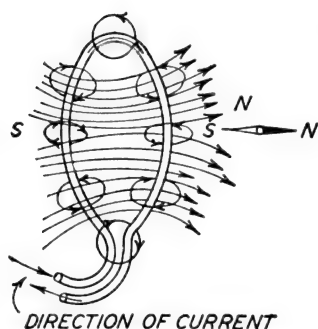

Fig. 14. Magnetic Field Produced by a Loop of Wire
**Magnetic Field of a Loop.** If a wire carrying a current were bent into a loop, a field similar to that shown in Fig. 14 would be obtained. Opposite sides of this loop may be termed parallel conductors with the current flowing in opposite directions. This magnetic field has a north pole and a south pole which possess all the properties of similar poles of a short bar magnet. A compass needle placed in this field assumes the direction shown, the north pole pointing in the direction of the magnetic lines.